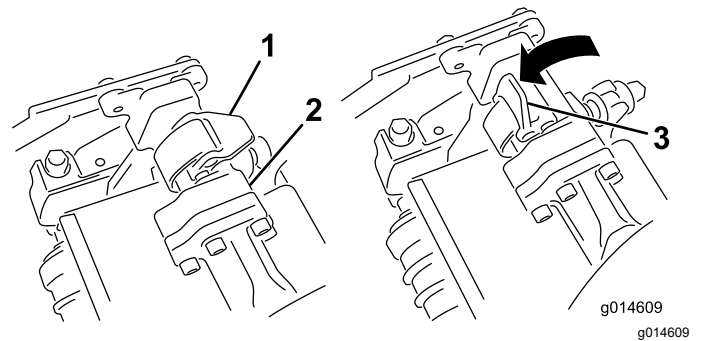
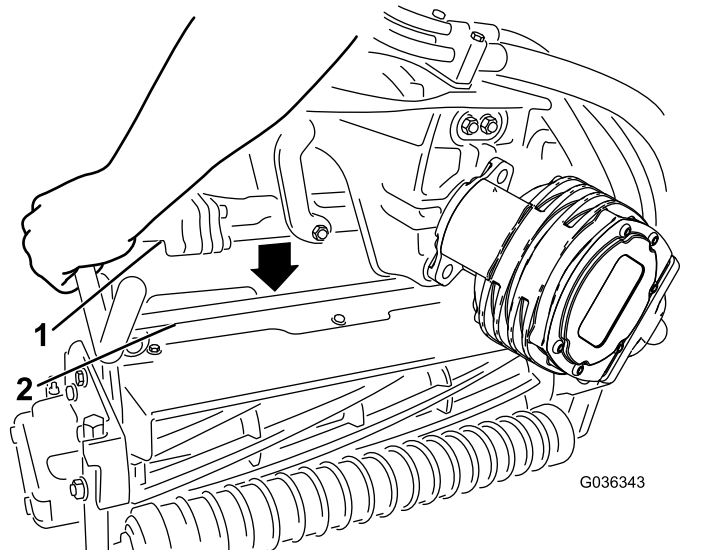

Figure 63
Figure 64
4. With the latches on the suspension-arm bar pointing up (i.e., open) (Figure 63), push the suspension arm down so that the bar fits over the bar across the top of the cutting unit (Figure 64).
5. Close the latches down and around the cutting-unit bar and lock them in place (Figure 63).
5. Open the latches on the suspension-arm bar of the cutting unit you are removing (Figure 63).